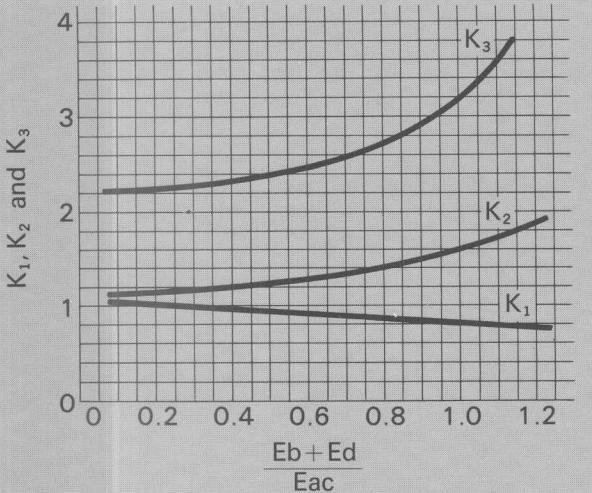

Figure 19
- K1 = DC voltage equation factor (taken from Figure 19)
- K2 = DC current equation factor (taken from Figure 19)
- K3 = Current form factor (taken from Figure 19)